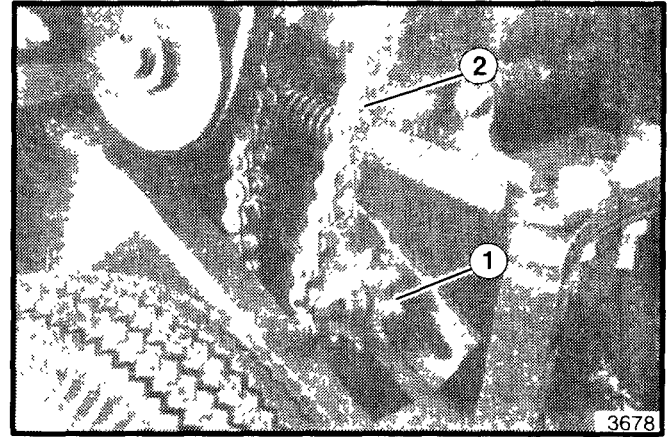

Figure 12. Drive Chain
3. Open the connecting link and remove the chain (see figure 12)